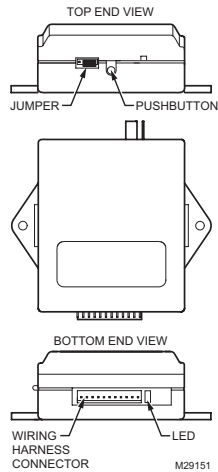

Fig. 4. Receiver components.
Refer to Fig. 4 and position the jumper to the desired delay option:
3. At the receiver and press the black pushbutton three times for Zone 3 (see Fig. 4 on page 4). The red LED on the opposite side of the receiver will flash three times. See Fig. 4 on page 4 for location of the pushbutton and LED.
1. Press and hold the black pushbutton (see Fig. 4 on page 4) on the receiver for six (6) seconds.